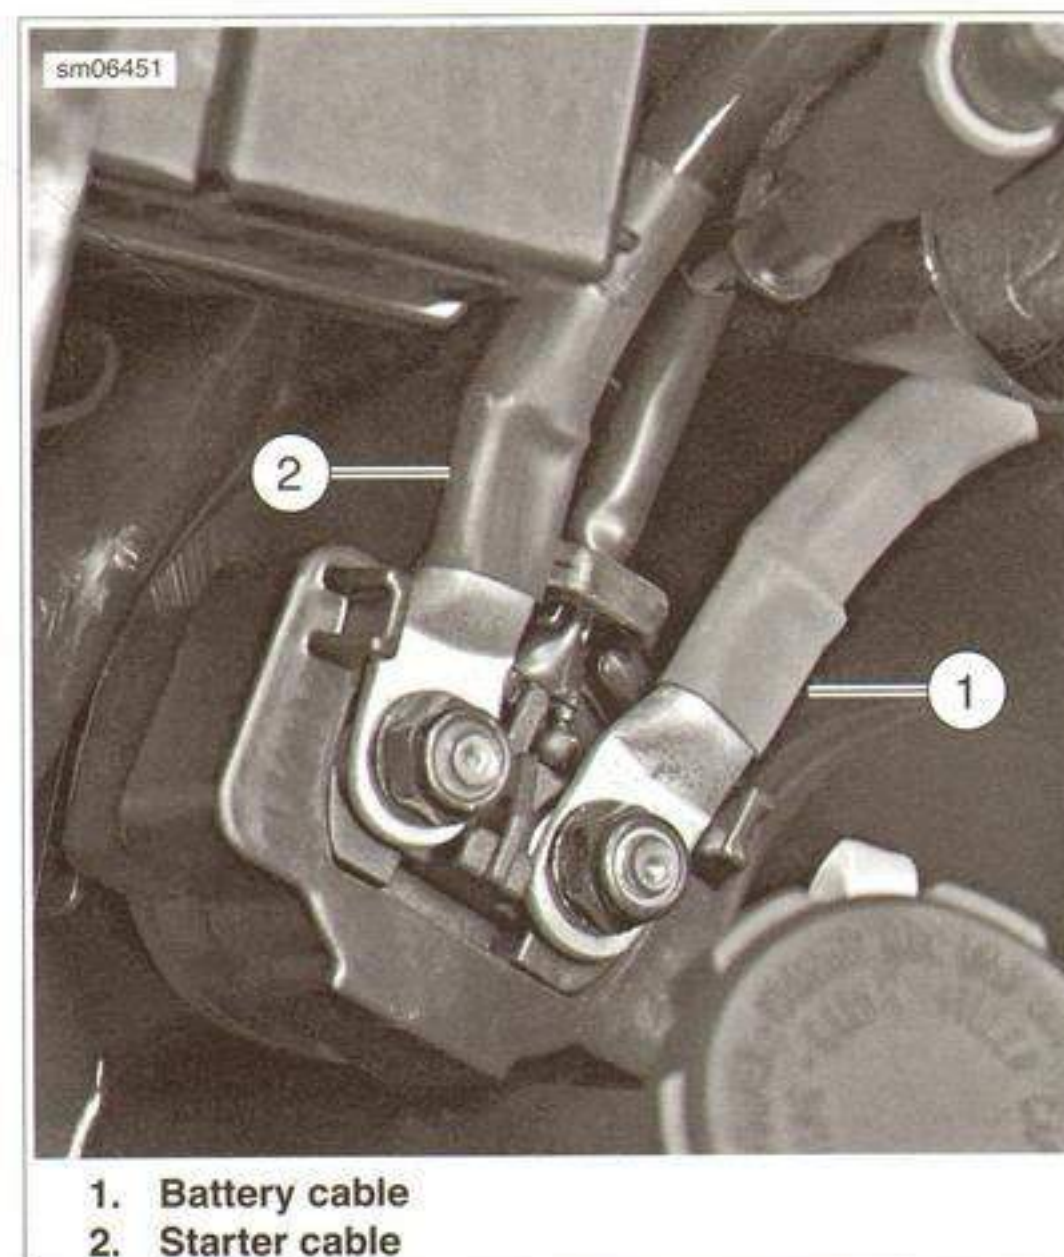

Figure 7-21. Starter Solenoid
7. See Figure 7-21. Remove the battery cable (1) and the starter cable (2).